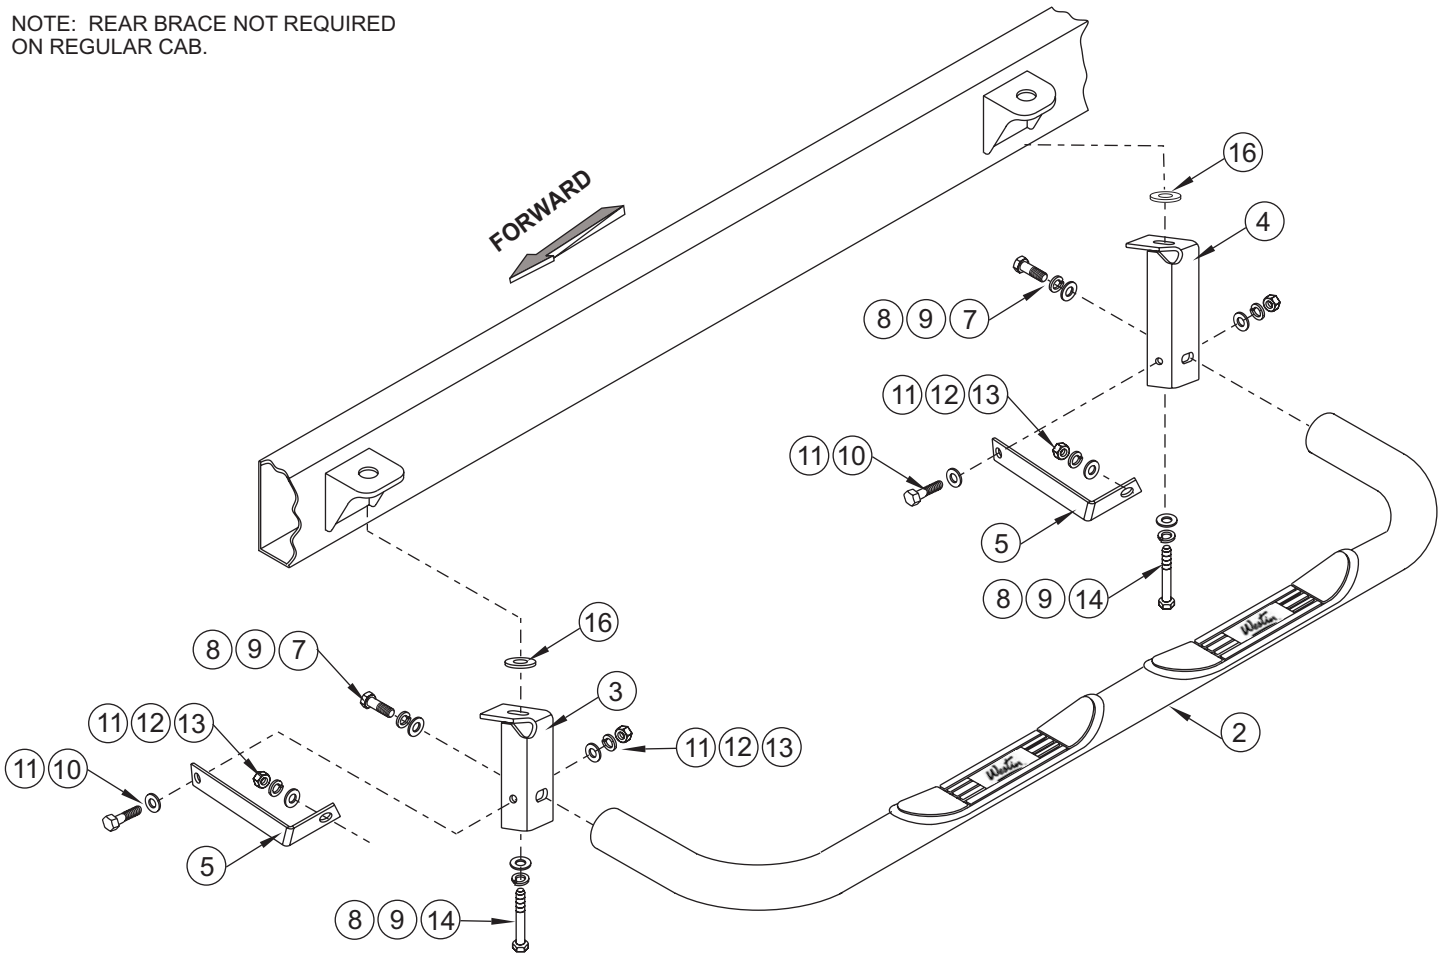

FIGURE 3
- STEP 2. Remove existing body mount bolts. Body mount bolts will not be used for step bar installation. **SEE FIGURE 3.**